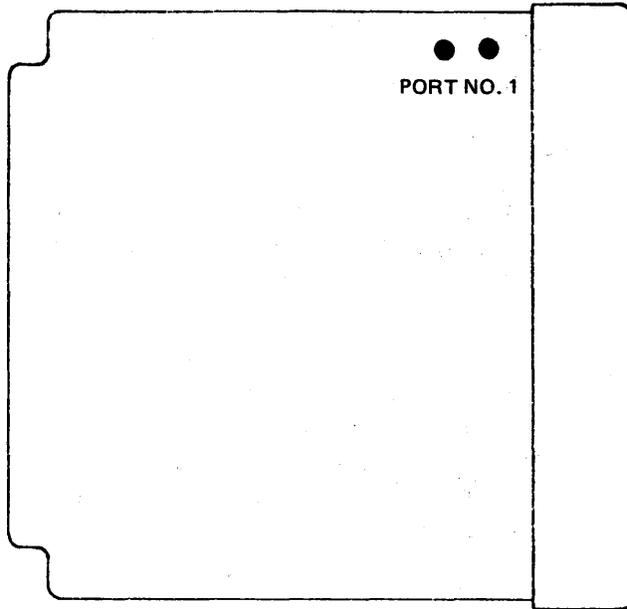

Figure 3. 418 Option Locations
appropriate length of wire across its option posts. When these posts are strapped, a 600-ohm resistor is connected across terminal 13 (T) and 15 (R) of port 1. Refer to Figure 3 for the location of these option posts.